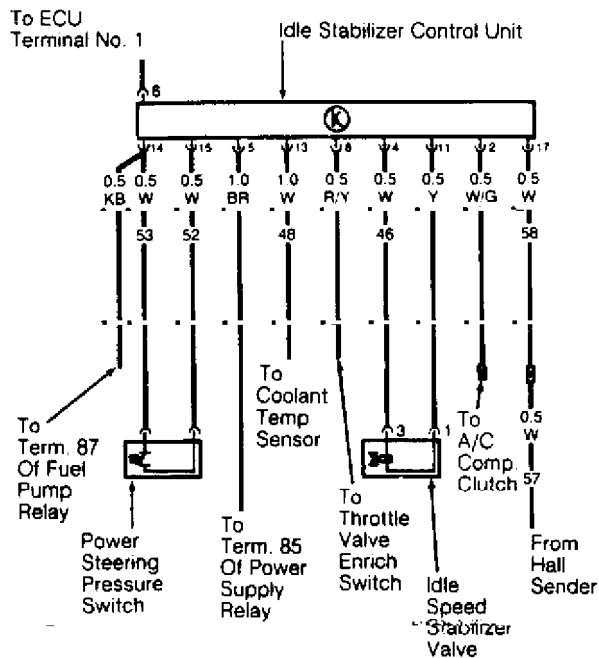

Fig. 9: Idle Stabilization System Control Unit
2) If milliampere reading does not increase, turn ignition switch off. Connect test light between terminals No. 2 and No. 5 of idle stabilization control unit connector. See Fig. 9. Start engine and cycle A/C switch on and off.